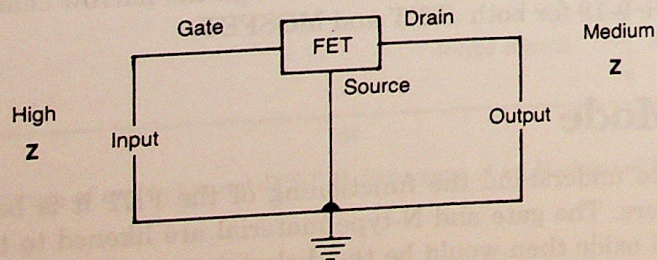

Figure 9-16. Single gate FET circuit configuration.
The FET has three terminals with slightly different names from those encountered with transistors. It has a gate (G), drain (D), and source (S). The drain could be called the anode and the source called the cathode, with the gate being the current controlling connection (see Figure 9-16).